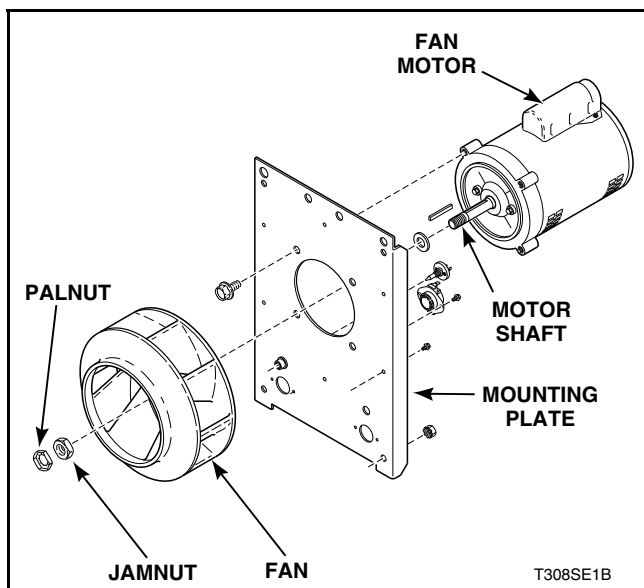

Figure 41
- d. Remove jamnut and palnut holding fan to motor shaft. Refer to *Figure 41*.
Refer to *Figure 41*.